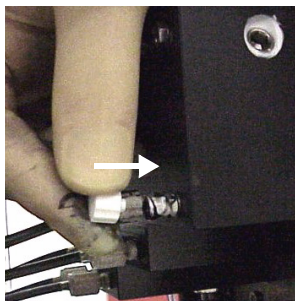

Figure 55. **Fitting Plastic Cap**
8. Screw a white plastic cap onto the nipple and gently turn in a *clockwise* direction for half a turn to seal it - see Figure 55.